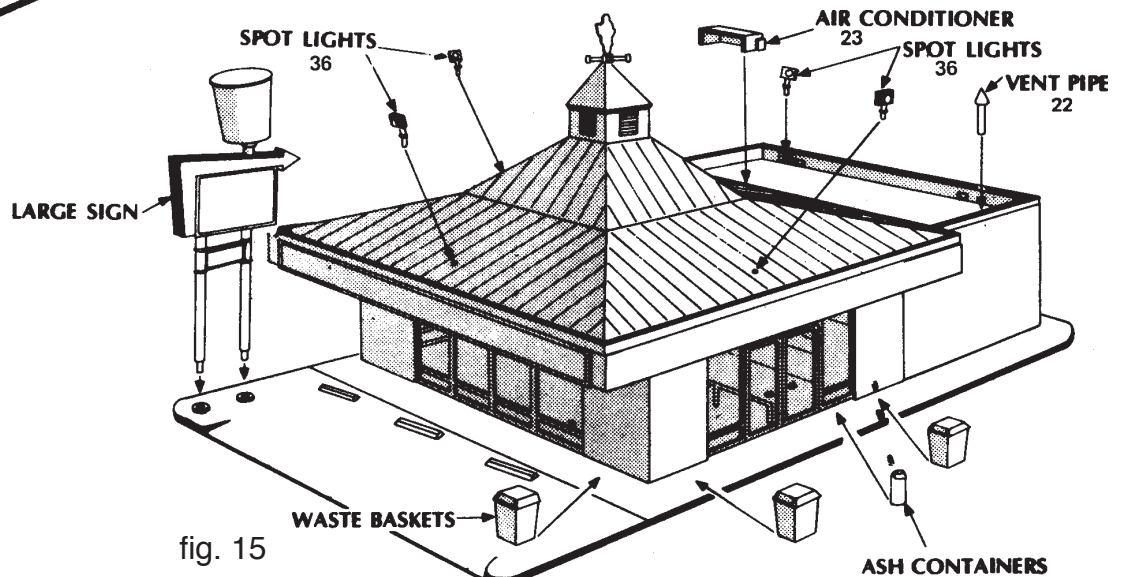

fig. 15
15. Cement three SPOTLIGHTS (36) to the large roof and one to the rear wall. Cement the VENT PIPE (22) and the AIR CONDITIONER (23) to the small roof. Finally, cement the LARGE SIGN, the four WASTE BASKETS and the two ASH CONTAINERS to the base. (Fig. 15)